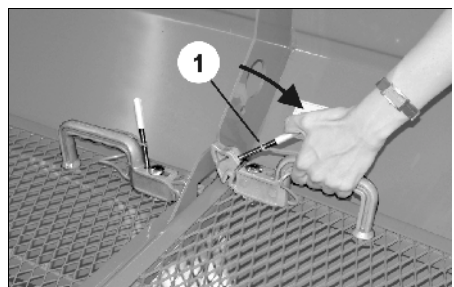

Fig. 14
(Fig. 14/1) Unlocking position to
2. Take hold of the grip and turn the unlocking tool in direction of the grip (Fig. 14).